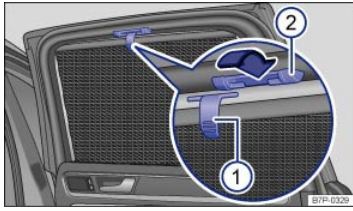

Fig. 87 Sunshade in the rear right window.
- Pull the sunshade all the way up by the projecting handle ⇒ Fig. 87①.
- Insert each eye of the handle into the corresponding mount ②. Make sure that the extended sunshade is safely hooked into both mounts ②.
- Unhook the sunshade at the top and guide it down to retract the blind ⇒ ①.